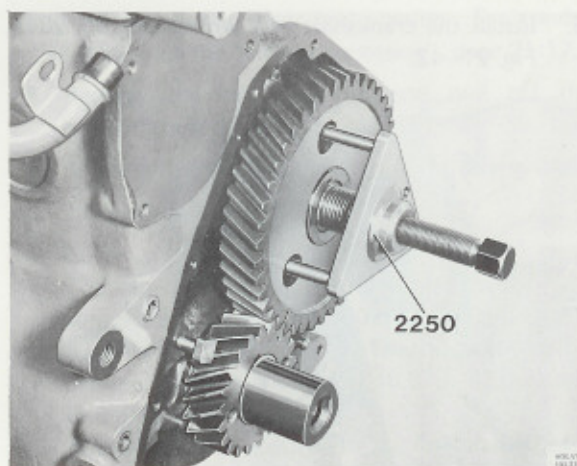

Fig. 21-39. Removing the camshaft gear
2. Remove the camshaft nut and pull the gear off with puller 2250, Fig. 21-39.
6. Remove the camshaft nut and pull off the camshaft gear with puller 2250, Fig. 21-39.